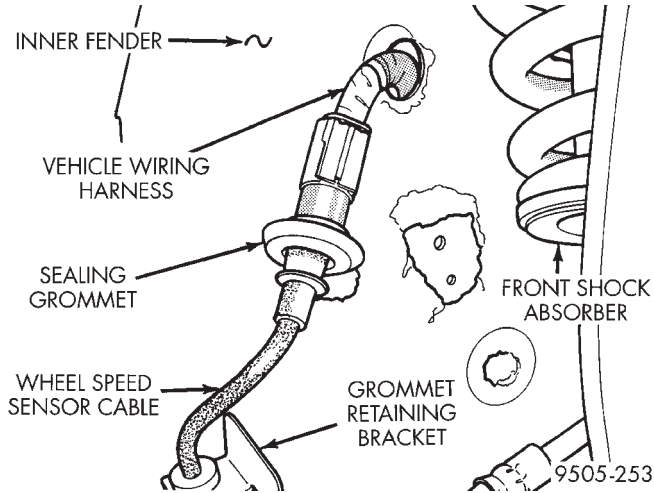

Fig. 30 Wheel Speed Sensor Cable Connection To Vehicle Wiring Harness
(12) Remove the speed sensor cable sealing grommet from inner fender (Fig. 30). Then disconnect the wheel speed sensor cable from the vehicle wiring harness (Fig. 30). Push vehicle wiring harness back through hole in inner fender and unclip wiring harness trough from frame rail.
(15) Clip the vehicle wiring harness back on the right frame rail. Then route the wiring harness connector for the wheel speed sensor cable through routing hole in inner fender. Connect vehicle wiring harness to wheel speed sensor cable (Fig. 30).
(16) On a vehicle equipped with antilock brakes, install wheel speed sensor cable sealing grommet in routing hole. Install retainer for wheel speed sensor cable grommet (Fig. 30) on right inner fender.
(17) Install accessory drive slash shield in right front inner fender.
(18) Install tire back on vehicle. Tighten the wheel lug nuts in proper sequence until all lug nuts are torqued to half specification. Then repeat tightening sequence to full specified torque of 135 N·m (100 ft. lbs.).
(19) Lower vehicle.